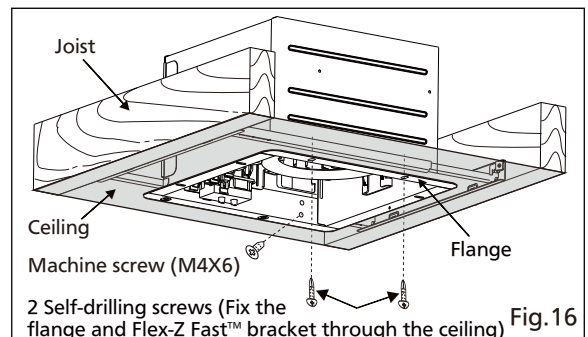

Fig.16
4. Secure the fan body to Flex-Z Fast™ bracket by using 2 self-drilling screws, plug connector to receptacle and secure the fan body to adaptor by using machine screw (M4X6). (Fig.16)